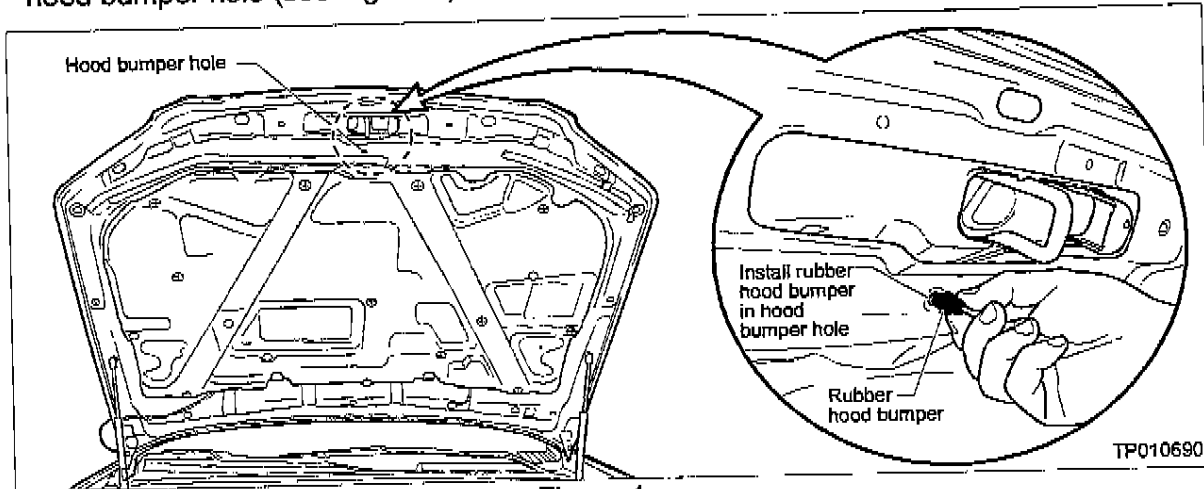

Figure 4
1. Install a Rubber Hood Bumper (see PARTS INFORMATION section for detail) into the hood bumper hole (see Figure 4).